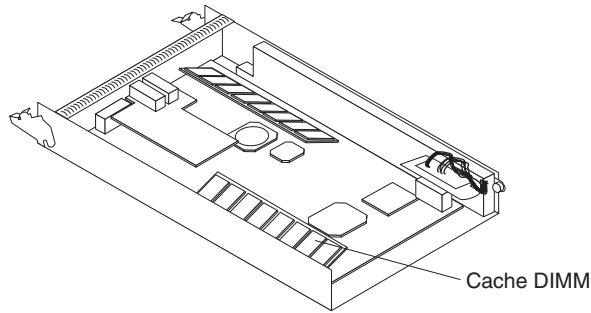

Figure 39. Removing the RAID cache DIMM
- a. Open the retaining clip on each end of the RAID cache DIMM connector. Figure 39 on page 52 shows the cache DIMM you will replace.
- a. Open the retaining clip on each end of the cache DIMM connector. Figure 39 on page 52 shows the cache DIMM that you will remove.